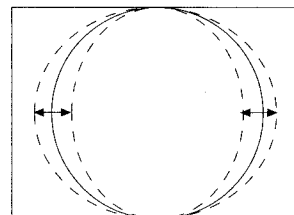

Fig. 3
- d) Adjust the horizontal amplitude to obtain 9% overscan (fig. 3).